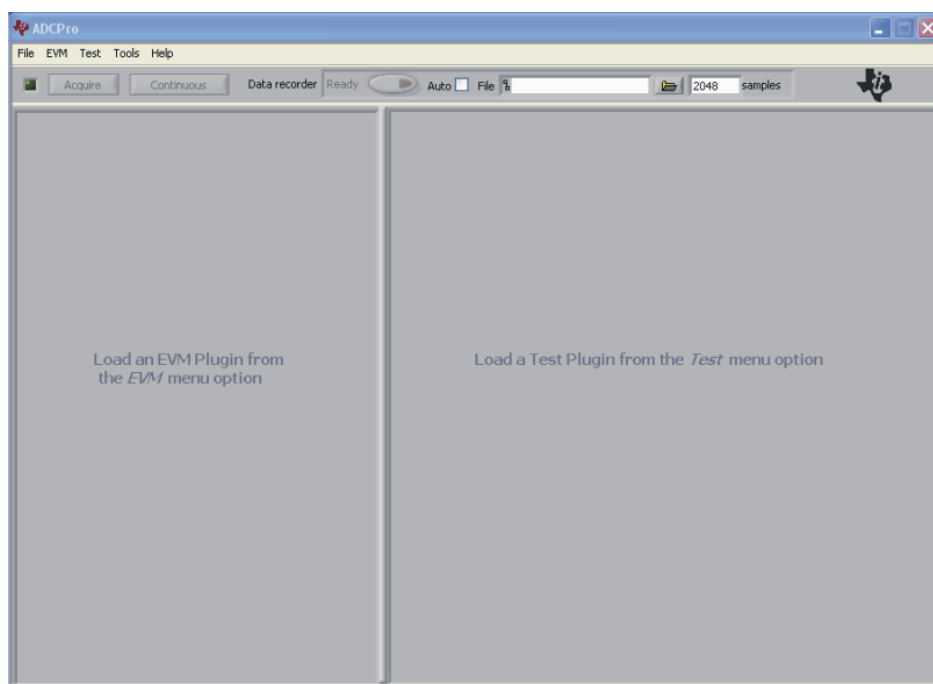

Figure 3. ADCPro Software Start-up Display Window
- Step 1. Start the software by selecting ADCPro from the Windows Start menu. The screen in Figure 3 appears.